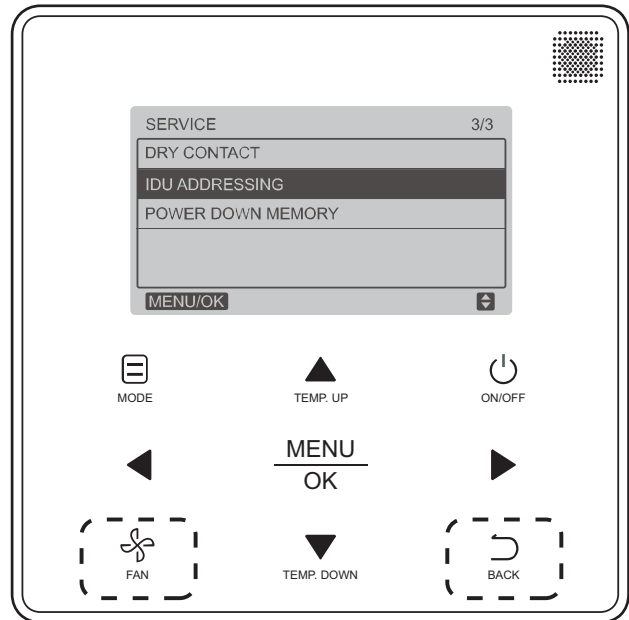

Fig. 18 — Programmable Controller (40VM900003) IDU Addressing Menu
1. access parameter settings as shown in Fig. 18.